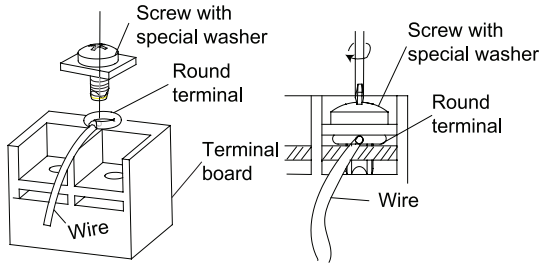

Fig.40
- 4). Position the round terminal wire, and replace and tighten the terminal screw with a screwdriver.(Fig.40)